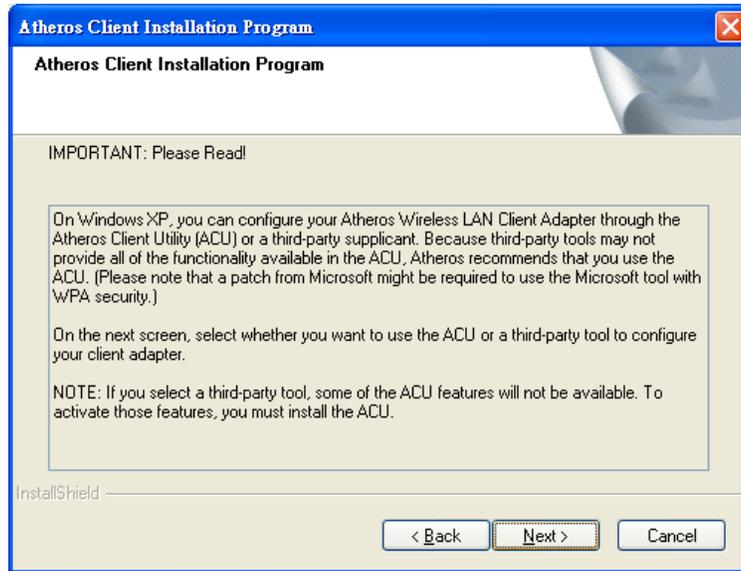

Figure 6-30: Wireless LAN Driver Important Notice
Step 9: Read the important notice and click **NEXT** to continue (**Figure 6-30**).